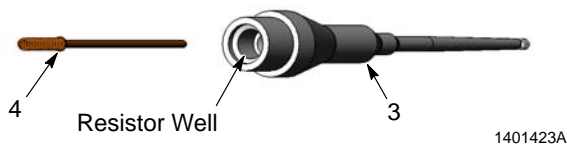

Figure 6 Removing Resistor from Holder
6. See Figure 6. Remove the resistor (4) from the resistor holder (3). Clean the resistor holder.
2. See Figure 6. Inject approximately 0.6 cc of dielectric grease into the resistor well.